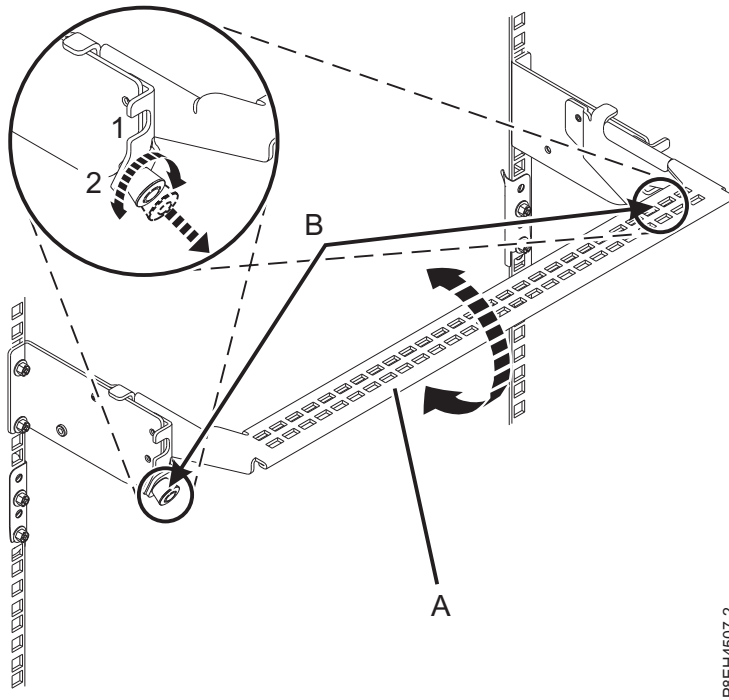

Figure 2. Placing the cable management bracket in the service position
6. At the rear of the EMX0 PCIe3 expansion drawer, put the cable management bracket in the service position. See Figure 2 on page 3.